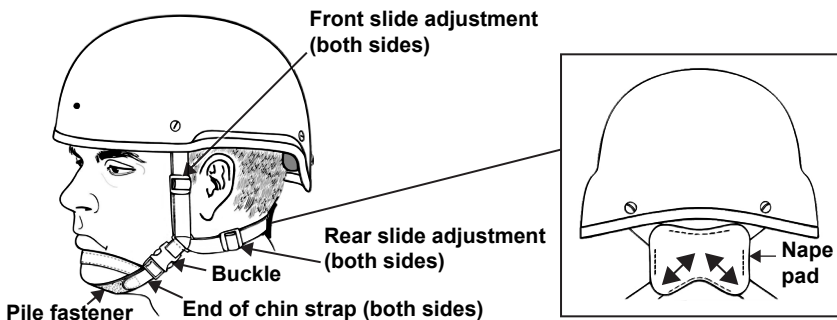

Figure 12. Universal X-style Retention Adjustment
1. Referring to **Figure 12**, do the following:
2. If the front retention straps seem too long or too short, refer to **Figure 12** and move the two front slide adjustments up or down.